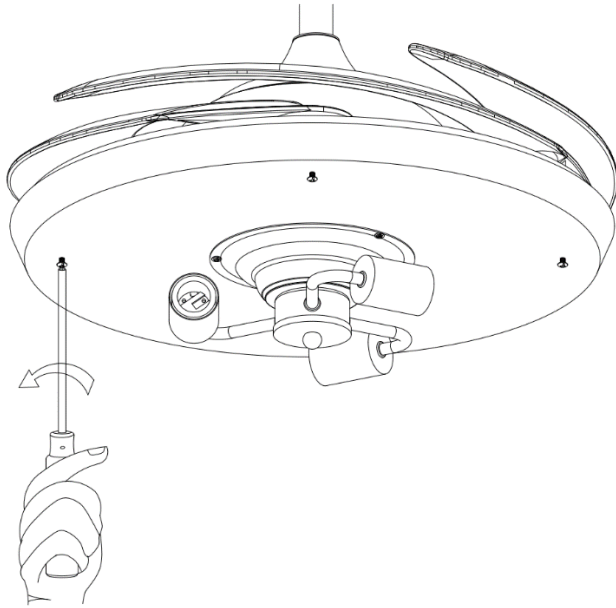

Fig. 12
4. Loosen the 3 pcs screws from the light kit bracket plate. (Fig. 12)